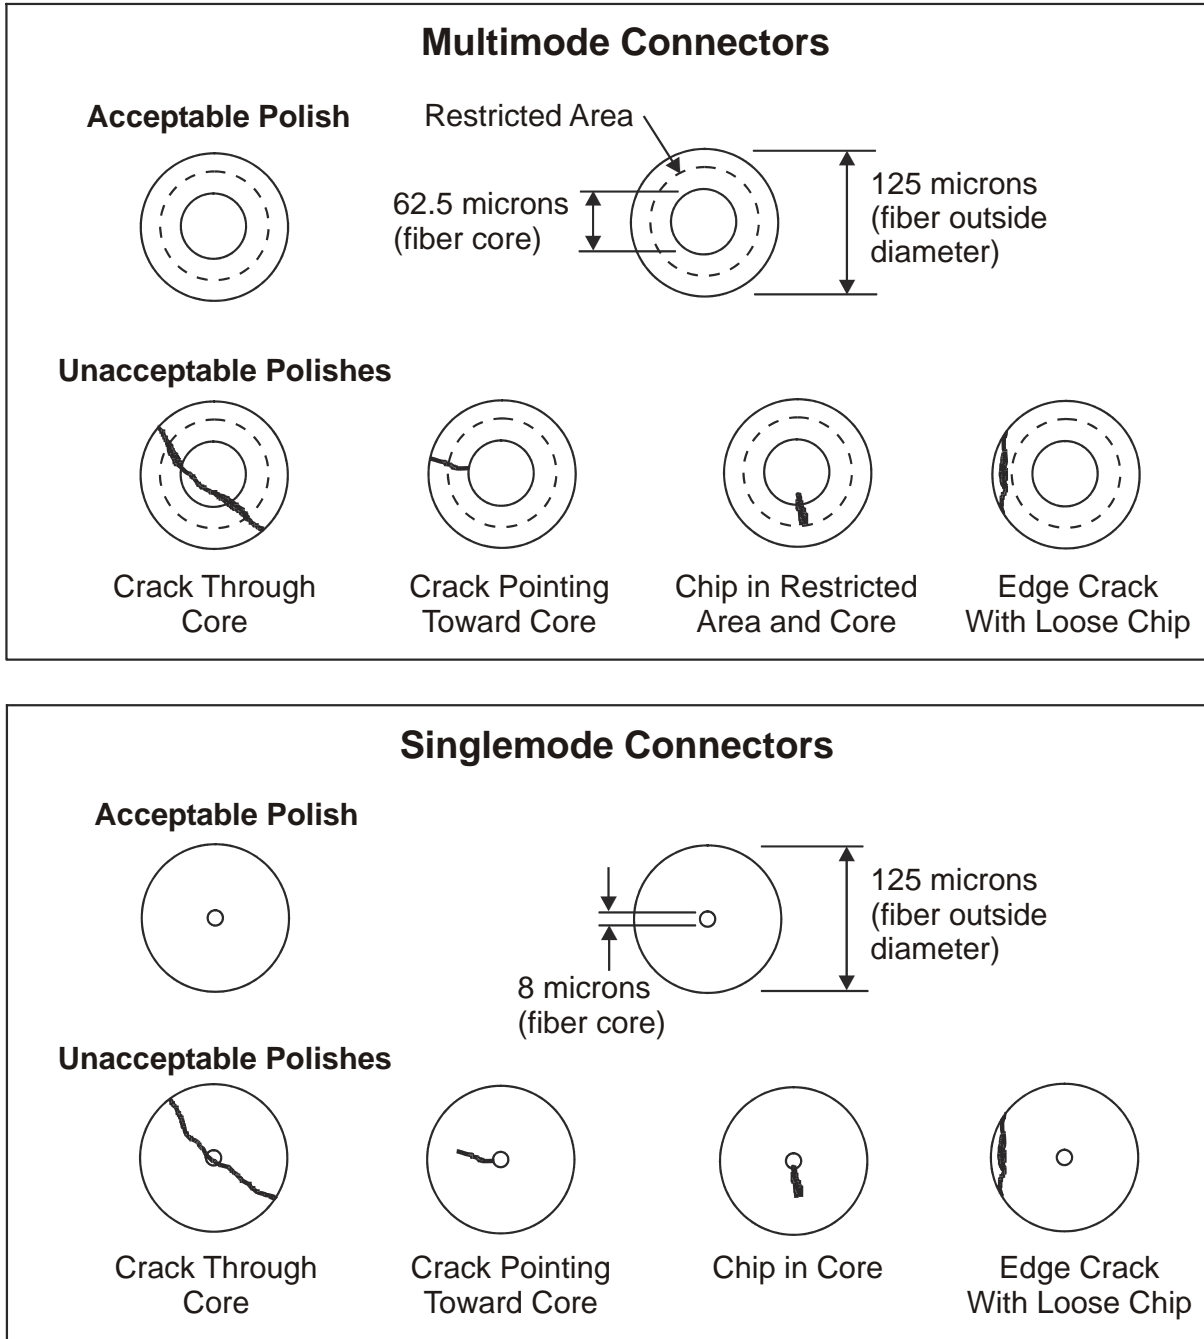

Figure 35 End Face Inspection for Connectors
2. **Inspect Fiber End**—An acceptable fiber end is free of cracks. Voids or scratches must be avoided in the core area (Figure 35). If the fiber is unacceptable, this fiber end must be reterminated.